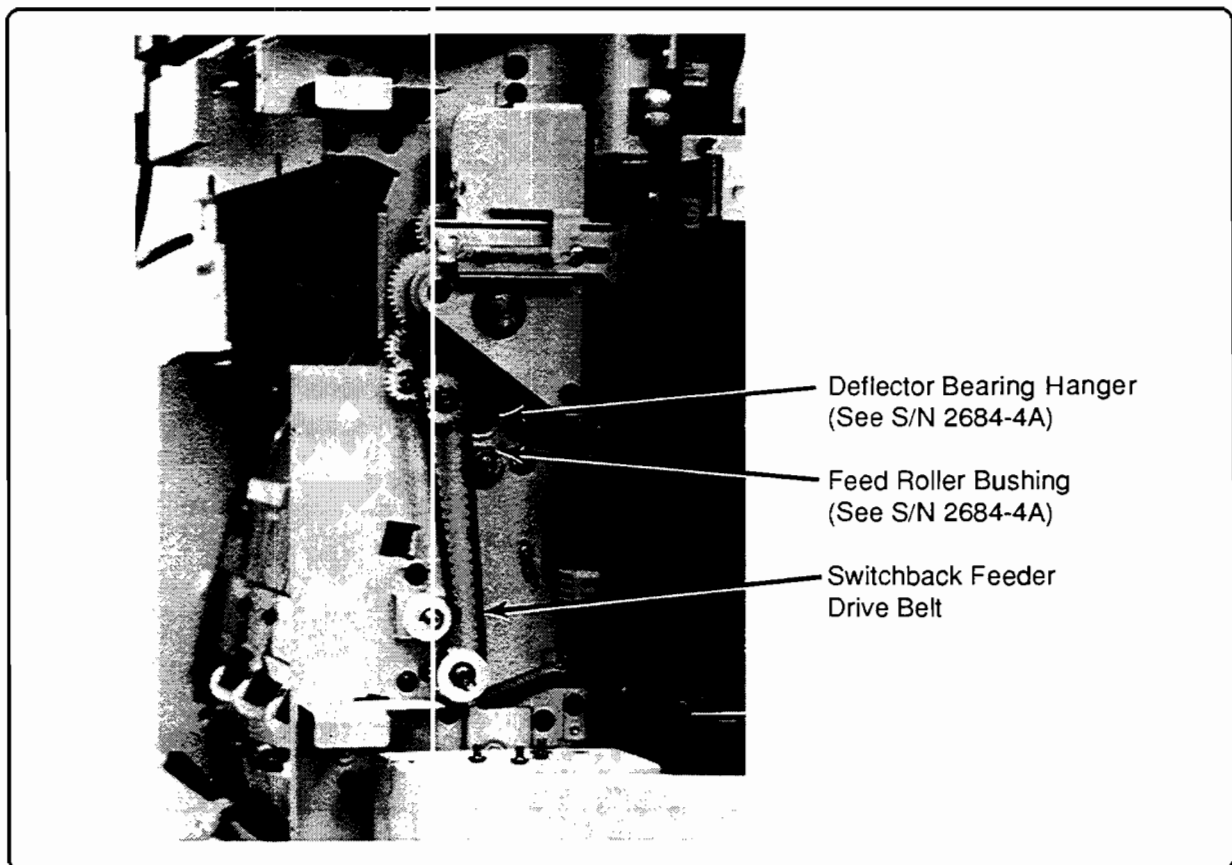

Figure 4-21. Switchback Feeder Drive Belt Area
In the following step, some rollers can be turned by hand in one direction or the other—both directions in some cases. If they can't be turned by hand, move them by pulling on the switch-back feeder drive belt (Figure 4-21).
8. Inspect the Switchback Feeder Drive Belt for wear and proper tension (Figure 4-21). Replace if worn, P/N XF9-0163-000CN. Adjust to 8mm \pm 2mm deflection when a force of 300 grams is applied by a Gram Tension Scale. See Chapter 6, page 6-106 if adjustment is necessary.
13. Inspect the deflector shaft bushings and corresponding feed roller shaft bushings for freedom of movement in their slotted channels and for updated springs (Figure 4-21 and Service Note 2684-4A).